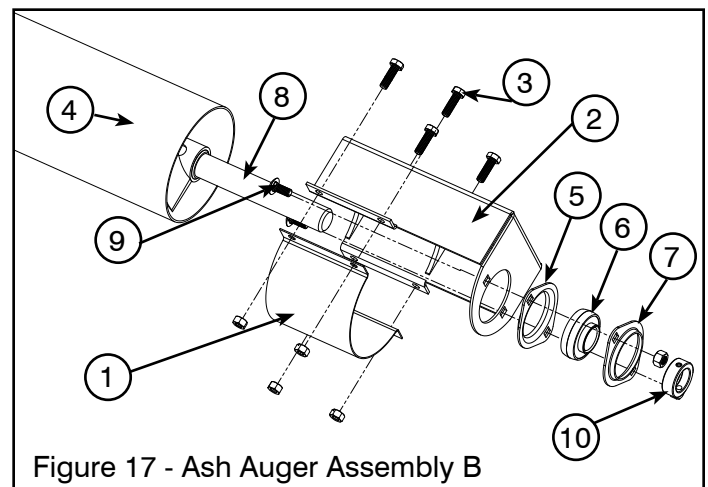

Figure 17 - Ash Auger Assembly B
4. Bolt together piece number 1 and 2 (1, 2, Fig. 17) with four 1/4" x 1" bolts (3, Fig. 17).
5. Slide the bolted part 1 and 2 onto the ash auger tube (4, Fig. 17).
6. Slide the flange (5, Fig. 17) onto the ash auger shaft (8, Fig. 17), then slide the bearing (6, Fig. 17) followed by the second flange (7, Fig. 17). Fasten with two 5/16" carriage bolts (9, Fig. 17).
7. Tighten the locking collar (10, Fig. 17) onto the bearing.